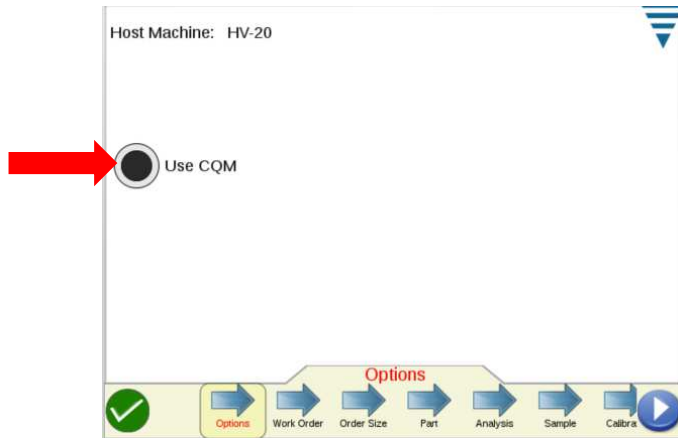

Figure 10
B. PS-20 with CQM Terminator (reference Figure 10)